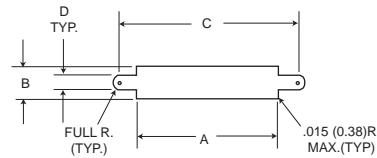
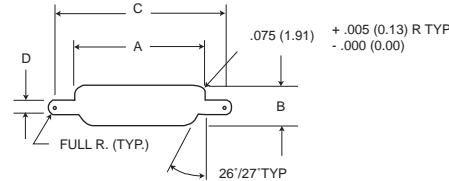

Figure 1
Figure 2
1. Front mounting (figure 1) and rear mounting (figure 2) accommodates #2-56 screws.